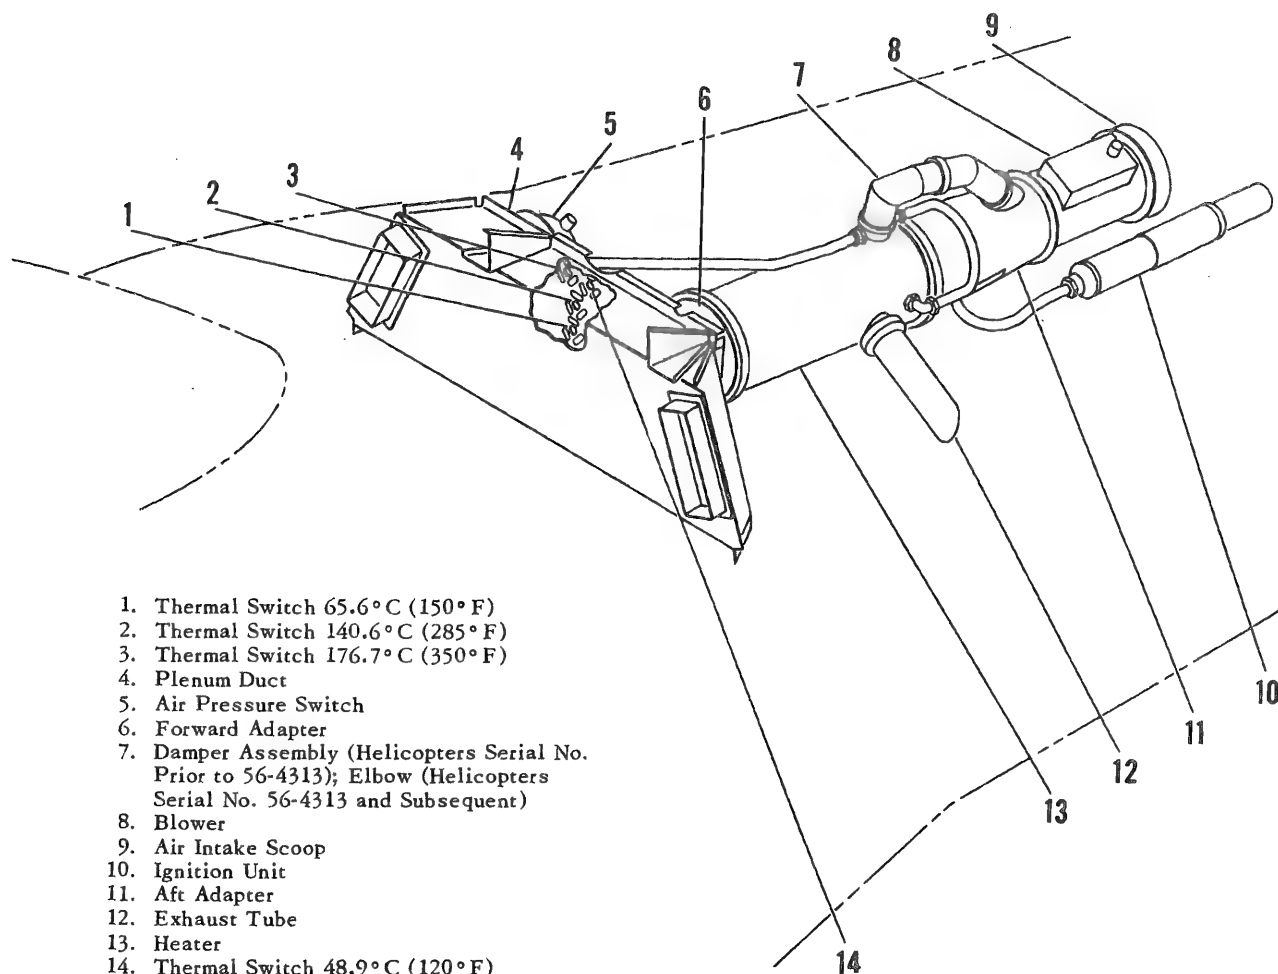
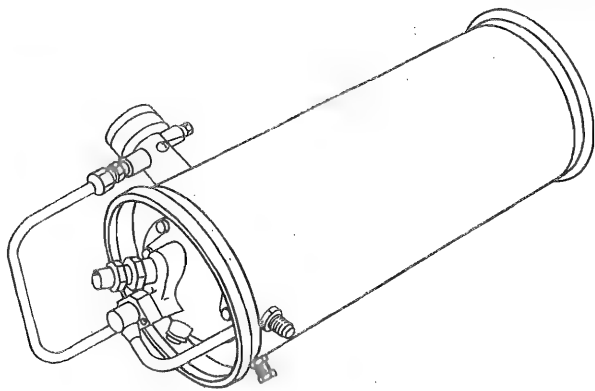

Figure 10-2. Heater Installation
Figure 10-3. Aircraft Heater
10-4. DESCRIPTION. (See figure 10-2.) The 50,000 BTU heater (13) is located at the top of the heater compartment just aft of the electronics compartment rear bulkhead. The heater is cylindrical in shape and is fabricated of heat-resisting alloy steel welded gas-tight. Combustion takes place inside a cylindrical combustion chamber which is surrounded by a double-walled radiator. At the inlet end of the heater are the fuel and combustion air inlets and the exhaust outlet. At the opposite end, four crossover passages connect the combustion chamber to the radiator. Enclosing the combustion chamber and radiator for the length of the radiator is a stainless steel wrap-around jacket with a self-sealing joint. It is held at a uniform distance from the radiator by spacers and is held in place by three jacket clips on the outside of the jacket. A removable spray-type head, in which are mounted the fuel spray nozzle, spark plug, and ground electrode, is fitted over the inlet end of the combustion chamber. Fuel is admitted under pressure to the combustion chamber through the spray nozzle. Air is admitted to the combustion chamber through the combustion air inlet at the top of the heater. The cone-shaped fuel spray produced by the nozzle is mixed with combustion air and ignited by the spark plug. Electric current for the spark plug is supplied by a high potential ignition unit (10) operating from the helicopter dc power supply. A shielded lead connects the ignition coil to the spark plug. A small amount of combustion air is introduced around the spray nozzle. This air is taken from a tapping in the combustion air inlet and fed through a tube to the nozzle holder. Fresh air thus introduced around the nozzle inhibits carbon formation. Air for combustion enters the combustion chamber at right angles to its length on a tangent to its inner surface. This causes the air to have a whirling or spinning
a. Remove screws that secure cover plate to bottom of aft adapter (11, figure 10-2) and slide cover plate back along ignition lead. Reach into access opening and disconnect ignition lead from spark plug. Withdraw lead from adapter.
b. Disconnect tube leading to air pressure switch (5) at combustion air inlet of heater (13). Remove nipple from inlet.
c. Unclamp and remove damper assembly or elbow (7) from combustion air inlet on top of heater (13).
f. Unclamp and remove exhaust tube (12) from heater.
g. Support heater and remove jacket clamp at each end of heater. Remove heater. (See figure 10-3.)
- a. Position heater (13, figure 10-2) between forward and aft adapters (6 and 11) and secure to adapters with jacket clamps.
- b. Install exhaust tube (12) in left side of heater (13) and secure with clamp.
- e. Secure damper assembly or elbow (7) to combustion air inlet on top of heater (13) with clamp.
- f. Install nipple in combustion air inlet. Connect tube from air pressure switch (5) to nipple.
- g. Insert ignition lead into access opening at bottom of aft adapter (11) and connect lead to spark plug in heater (13). Slide cover plate up against adapter and secure with screws.